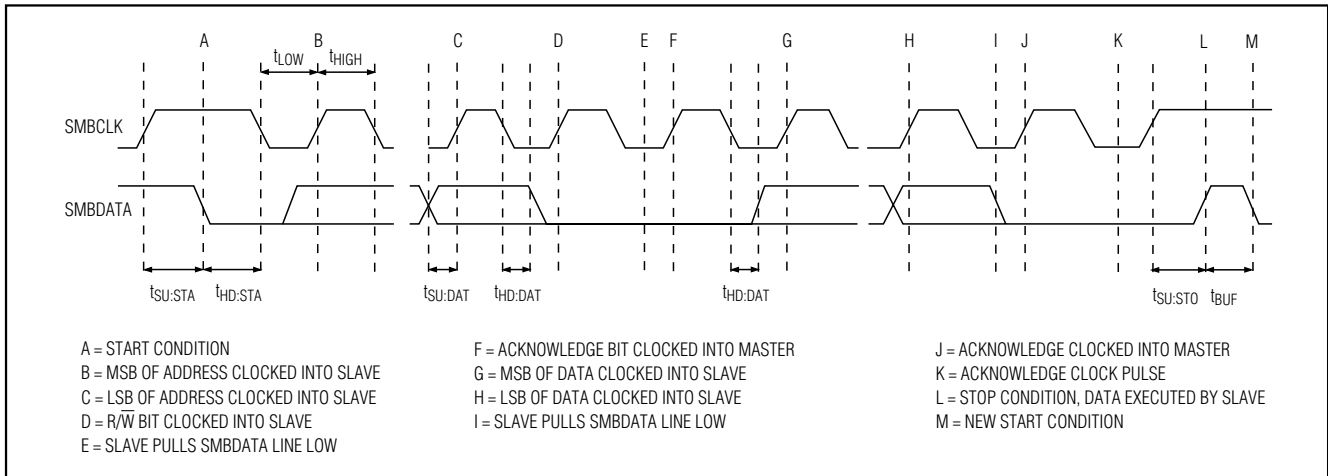

Figure 15. SMBus Write Timing
communicating with the slave, the master issues a STOP condition (P), which is low-to-high transition on CRF/SDA, while CTL/SCL is high. The bus is then free for another transmission. Figures 15 and 16 show the timing diagram for signals on the 2-wire interface. The address-byte, command-byte, and data-byte are transmitted between the START and STOP conditions. The CRF/SDA state is allowed to change only while CTL/SCL is low, except for the START and STOP conditions. Data is transmitted in 8-bit words and is sampled on the rising edge of CTL/SCL. Nine clock cycles are required to transfer each byte in or out of the MAX1996A since either the master or the slave acknowledges the receipt of the correct byte during the ninth clock. If the MAX1996A receives its correct slave address followed by  $R/\bar{W} = 0$ , it expects to receive 1 or 2 bytes of information (depending on the protocol). If